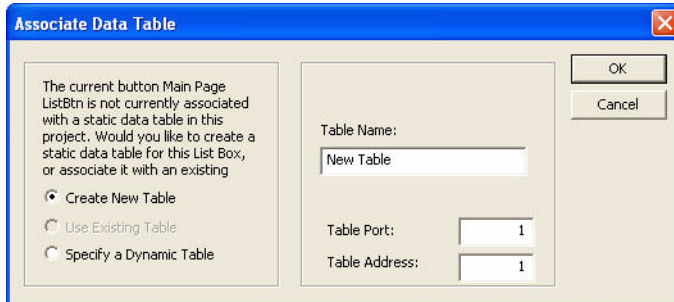

FIG. 35 Associate Data Table dialog
2. Select **List Box Items**. Assuming that the selected List Box button has not yet been associated with a Data Table, the *Associate Data Table* dialog is displayed (FIG. 35).